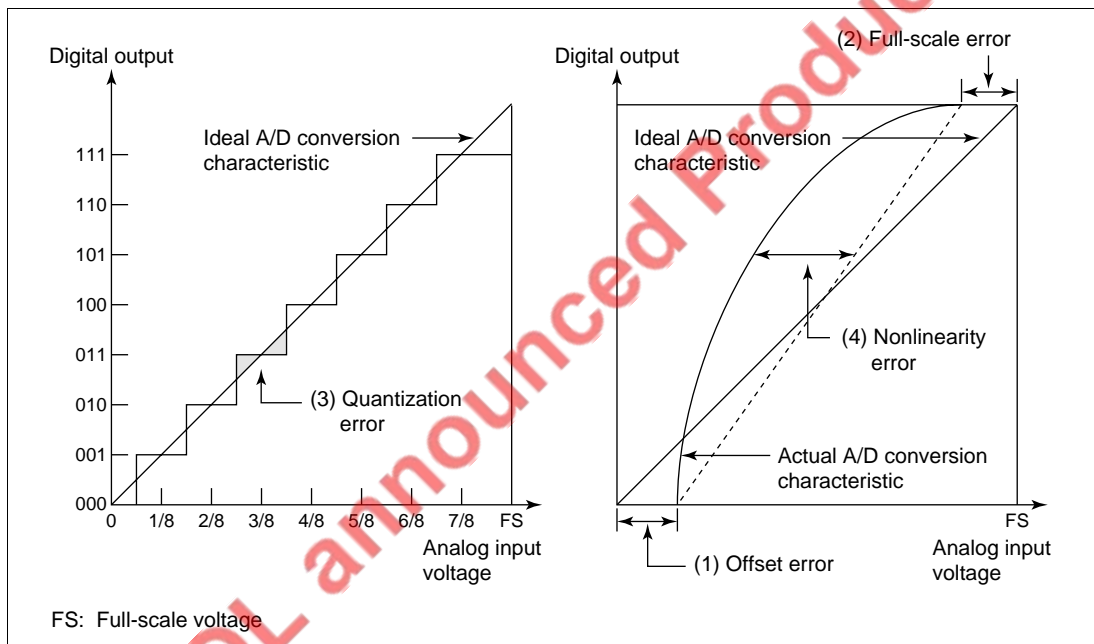

Figure 13.7 A/D Conversion Precision Definitions
The above four kinds of error are described below with reference to figure 13.7. For the sake of clarity, this figure shows 3-bit A/D conversion rather than 10-bit A/D conversion. Offset error (see figure 13.7 (1)) is the deviation between the actual A/D conversion characteristic and the ideal A/D conversion characteristic when the digital output value changes from the minimum value (zero voltage) of 0000000000 (000 in the figure) to 0000000001 (001 in the figure). Full-scale error (see figure 13.7 (2)) is the deviation between the actual A/D conversion characteristic and the ideal A/D conversion characteristic when the digital output value changes from 1111111110 (110 in the figure) to the maximum value (full-scale voltage) of 1111111111 (111 in the figure). Quantization error is the deviation inherent in the A/D converter, given by 1/2 LSB (see figure 13.7 (3)). Nonlinearity error is the deviation between the actual A/D conversion characteristic and the ideal A/D conversion characteristic from zero voltage to full-scale voltage (see figure 13.7 (4)). This does not include offset error, full-scale error, and quantization error.